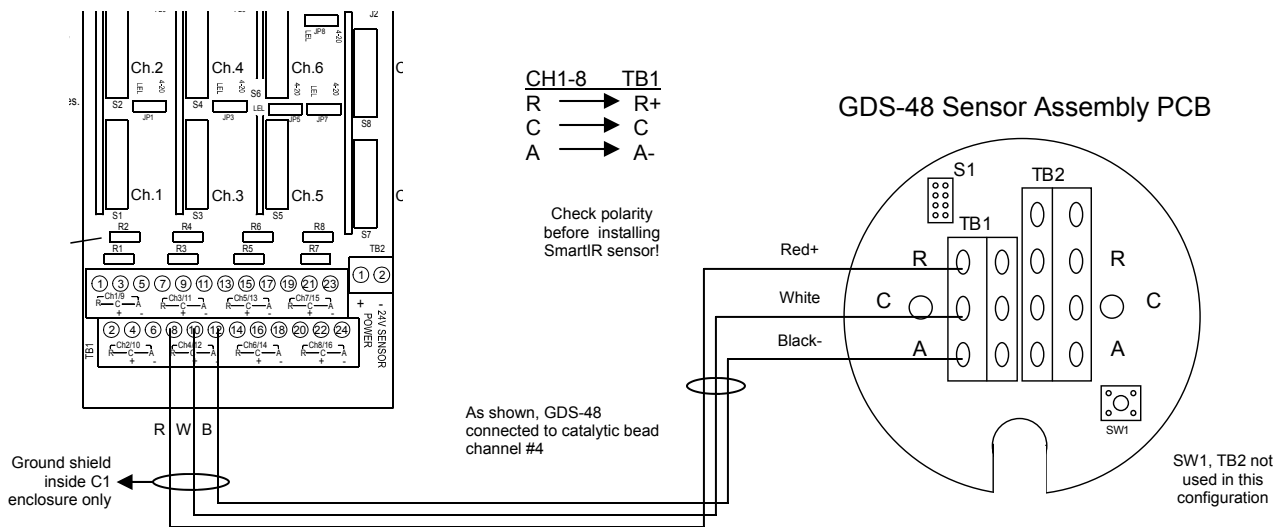

Fig 3. C1 Controller to GDS-48 Wiring Diagram for SmartIR
- 2) Connect the C1 to the remote sensor housing as shown in Fig. 3.